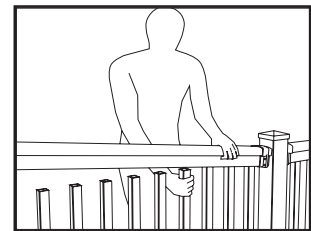

Fig. 4
8. Slide mounting brackets onto top rail. Place top rail on balusters inserting balusters one at a time while holding at an upward angle. Make sure balusters are completely nested in top rail and level. (FIG.4)